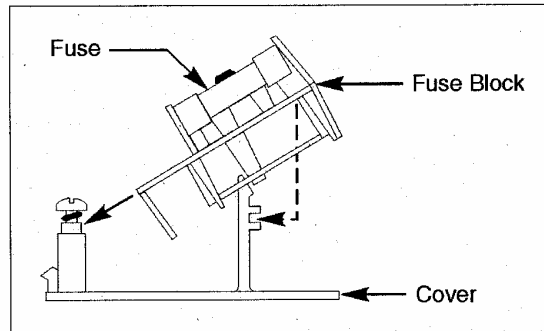

Figure 3.3 Removing the Fuse Block
2. Loosen the Phillips screw two turns and remove fuse block by sliding up, then away from Phillips screw and lifting up from the pedestal (Figure 3.3).